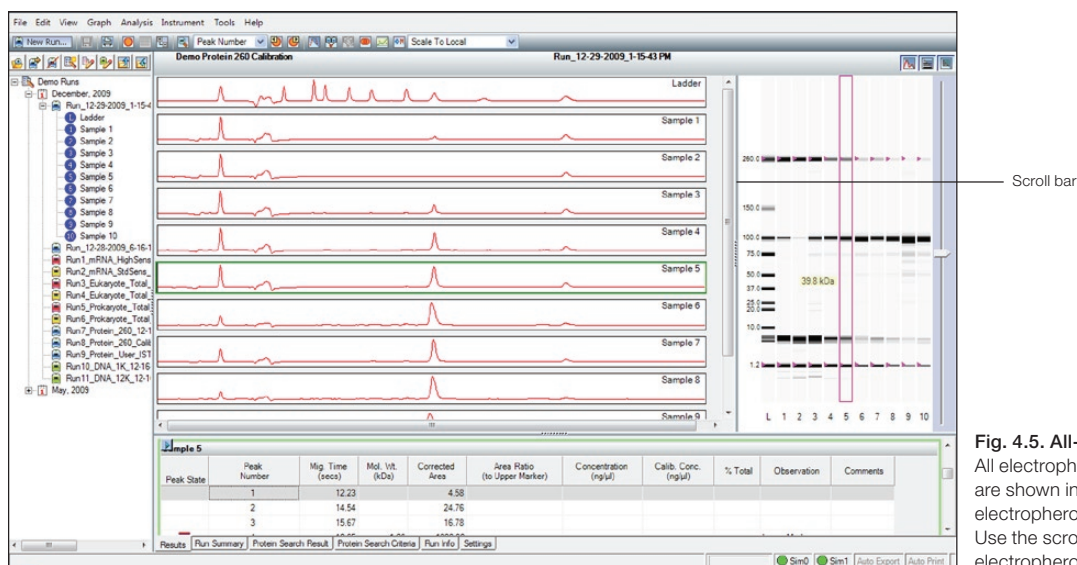

Fig. 4.5. All-wells view. All electropherograms are shown in the electropherogram view. Use the scroll bar to view electropherograms.
To display all electropherograms simultaneously (Figure 4.5):
2. Electropherograms for each sample populate the electropherogram view (Figure 4.5). Use the scroll bar to scroll through the electropherograms, or minimize the results and settings table to accommodate the multiple electropherograms.